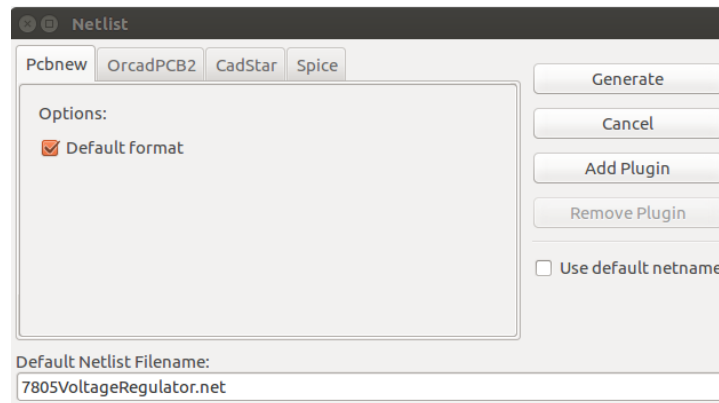

Figure 13.9: Netlist generation for PCB
3. In the Netlist window, under the tab *Pcbnew*, Select the option **Default** format. This is shown in Fig. 13.9. Click on **Generate** option.